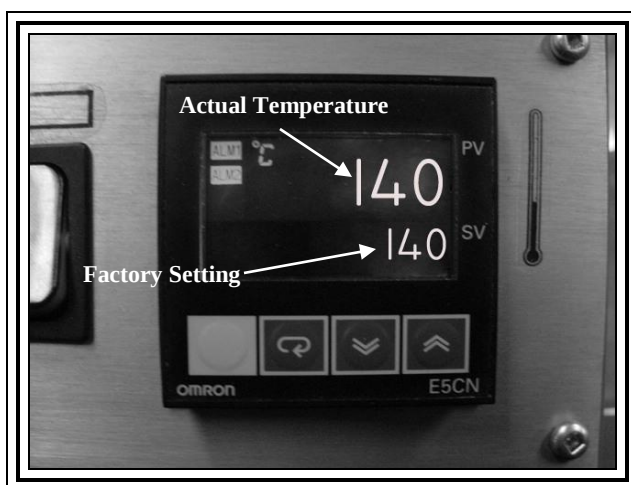

FIGURE 14
6. Operating Temperature (Figure 14)